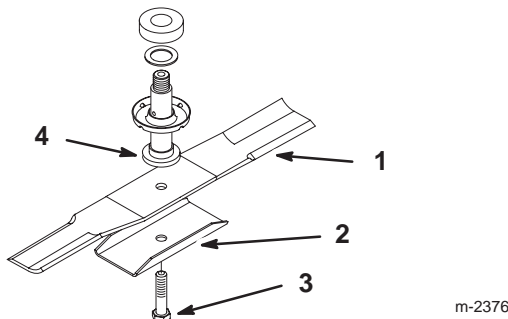

Figure 27
3. Remove the bolt, blade stiffener and blade (Fig. 27). A block of wood may be wedged between the blade and the mower to lock the blade when you are removing the bolt.